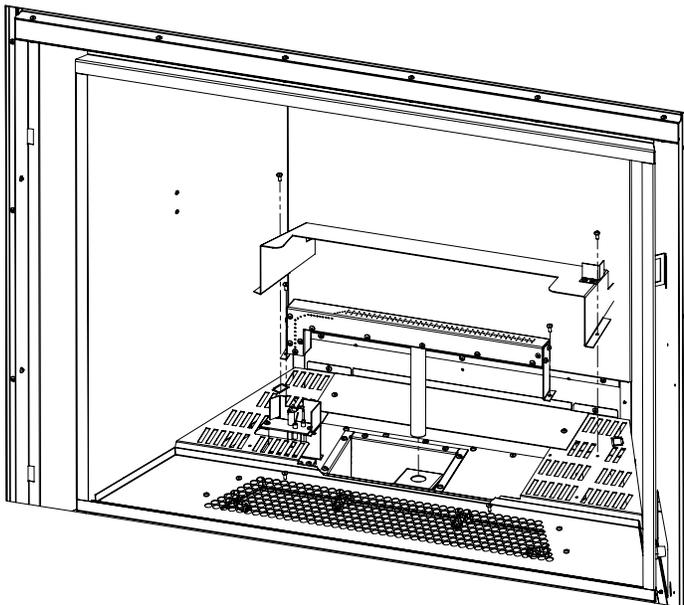

Figure 23. Rear Burner Removal
2. Remove the rear log support by removing the two T-20 screws (see Figure 23).
3. Remove the rear burner by removing the two T-20 screws (see Figure 23).